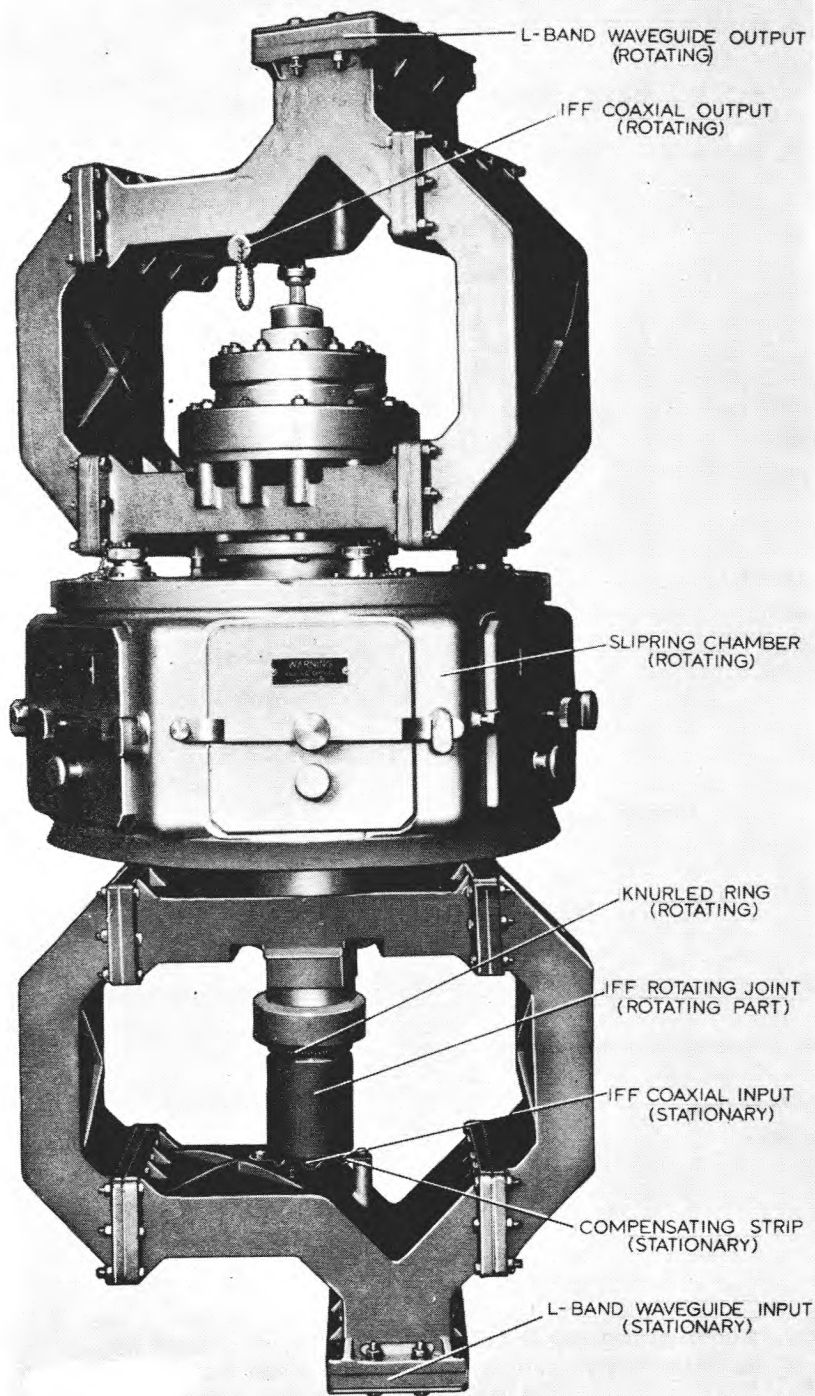

Fig. 1. Coupler, rotary, radio frequency: general view (1)
1. The coupler, rotary, radio frequency (*fig. 1 and 2*) is a rotating joint having two separate channels, L-band (1215–1365 Mc/s) and IFF (970–1130 Mc/s). The L-band channel carries high transmitter peak power levels. It consists of a coaxial rotating joint having door knob type transitions at either end. The transitions are followed by split, half-height waveguide sections terminated with rectangular waveguide flanges. The flanges form the input and output connections. The IFF channel, carrying low power levels, is coaxial throughout and is taken within the L-band coaxial inner conductor from a separate coaxial rotating joint attached to